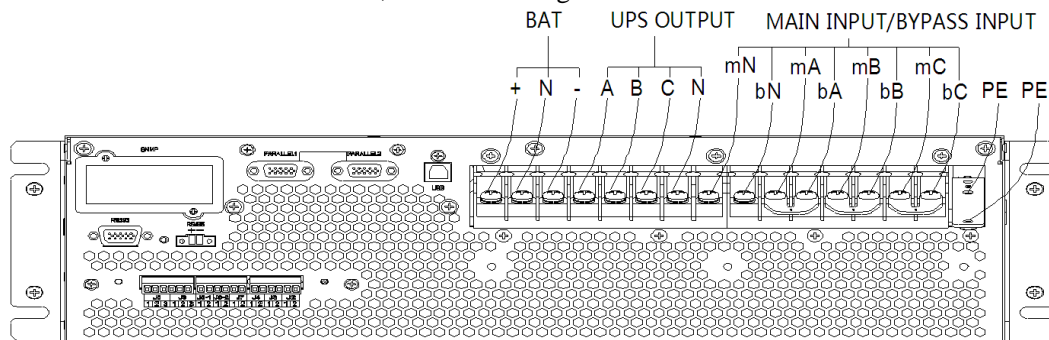

Figure 3-12 3 phases in 3 phases out, common input
- 3、 Connect PE cable to PE terminal, as shown in Figure 3-12.